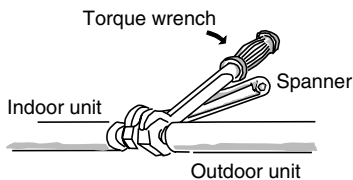

Fig. 7-6
- (1) Tightly connect the indoor-side refrigerant tubing extended from the wall with the outdoor-side tubing.
- (2) To fasten the flare nuts, apply specified torque.
- When removing the flare nuts from the tubing connections, or when tightening them after connecting the tubing, be sure to use 2 adjustable wrenches or spanners. (Fig. 7-6) If the flare nuts are over-tightened, the flare may be damaged, which could result in refrigerant leakage and cause injury or asphyxiation to room occupants.